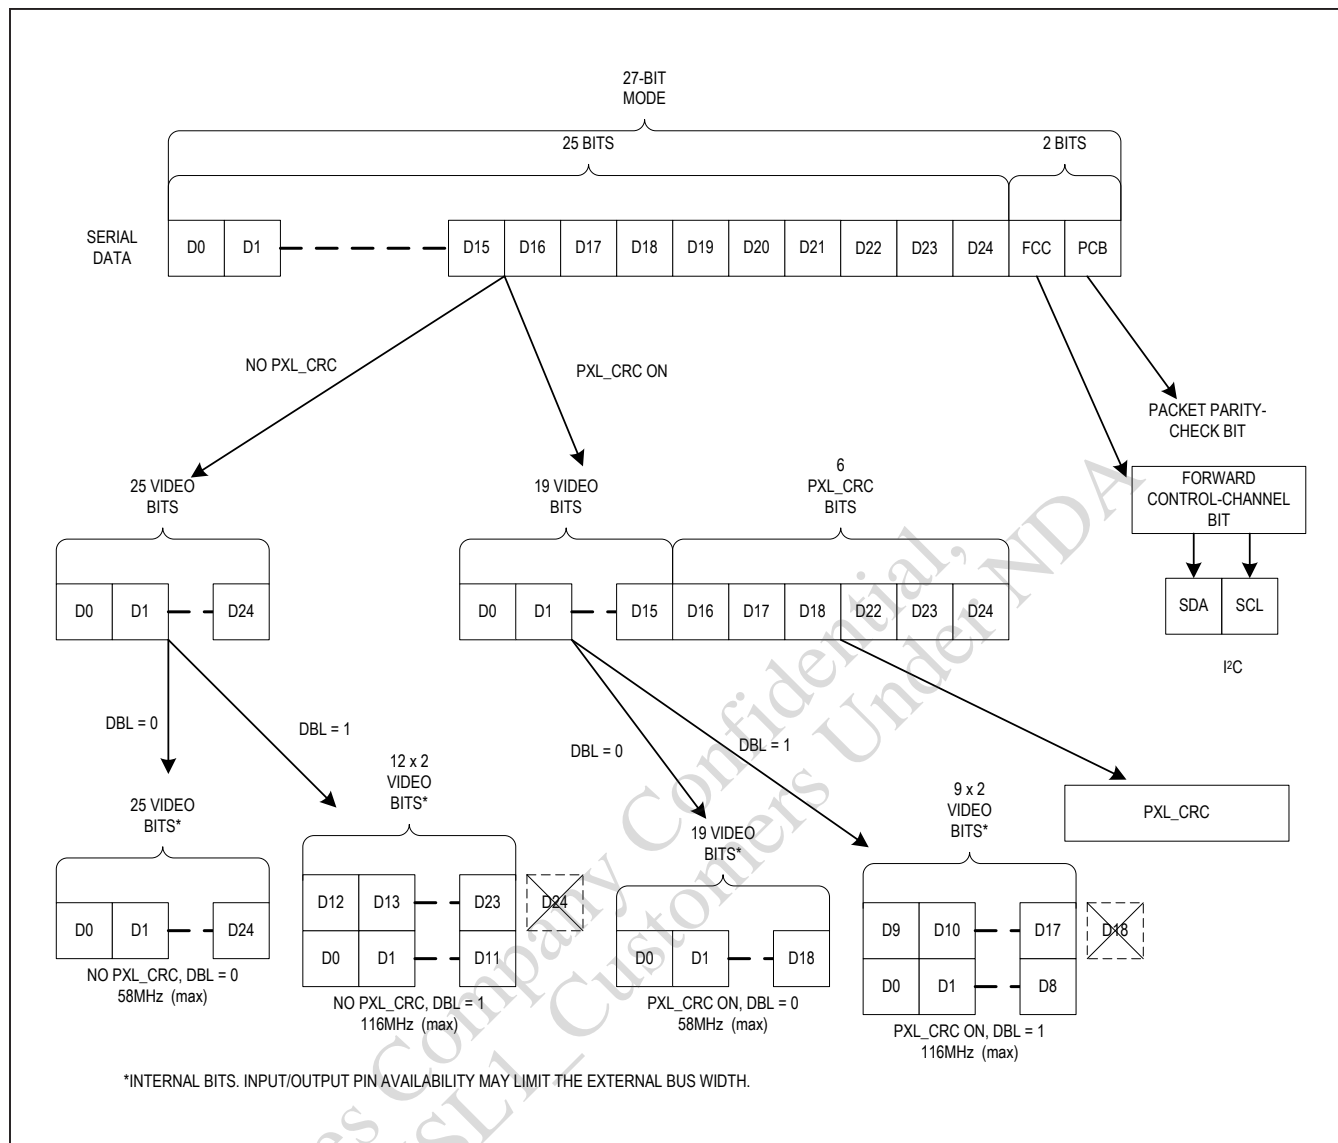

Figure 14. 27-Bit High-Bandwidth Mode Serial-Data Format
- **27-Bit High-Bandwidth Mode** (Figure 14)